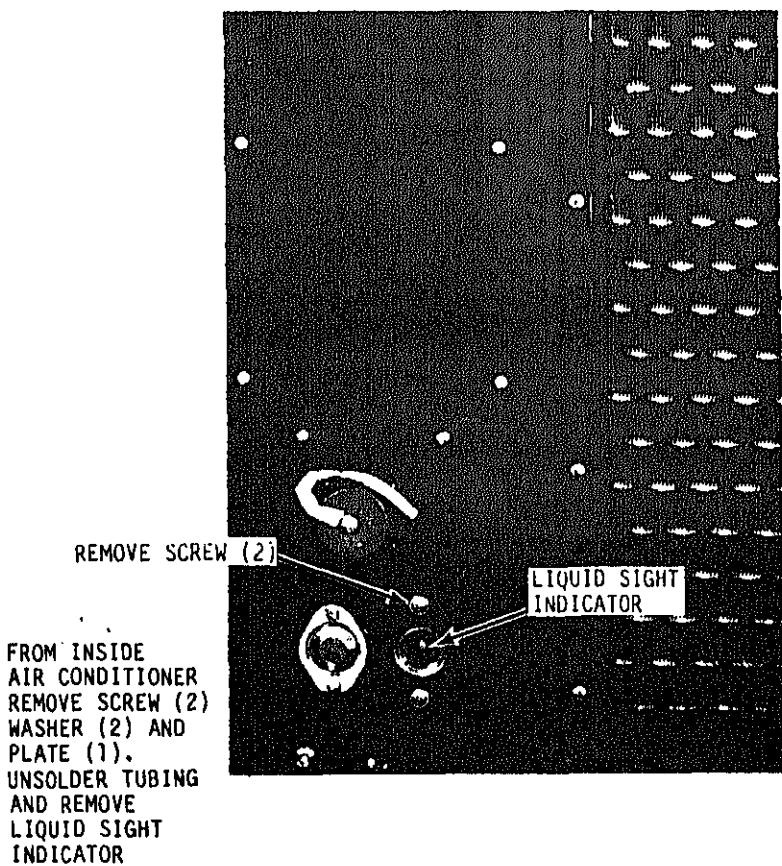

Figure 5-9. Liquid sight indicator removal and installation
a. General. The liquid sight indicator provides a heavy glass porous hole to give visible indication of refrigerant flow. Figure 1-2 shows the location and figure 5-9 is a closeup view.
(4) Refer to figure 5-9 and remove the liquid sight indicator mounting plate.
(5) Unsolder the liquid sight indicator from the refrigerant system tubing.
(1) Refer to figure 5-9 and install the liquid sight indicator and mounting bracket.